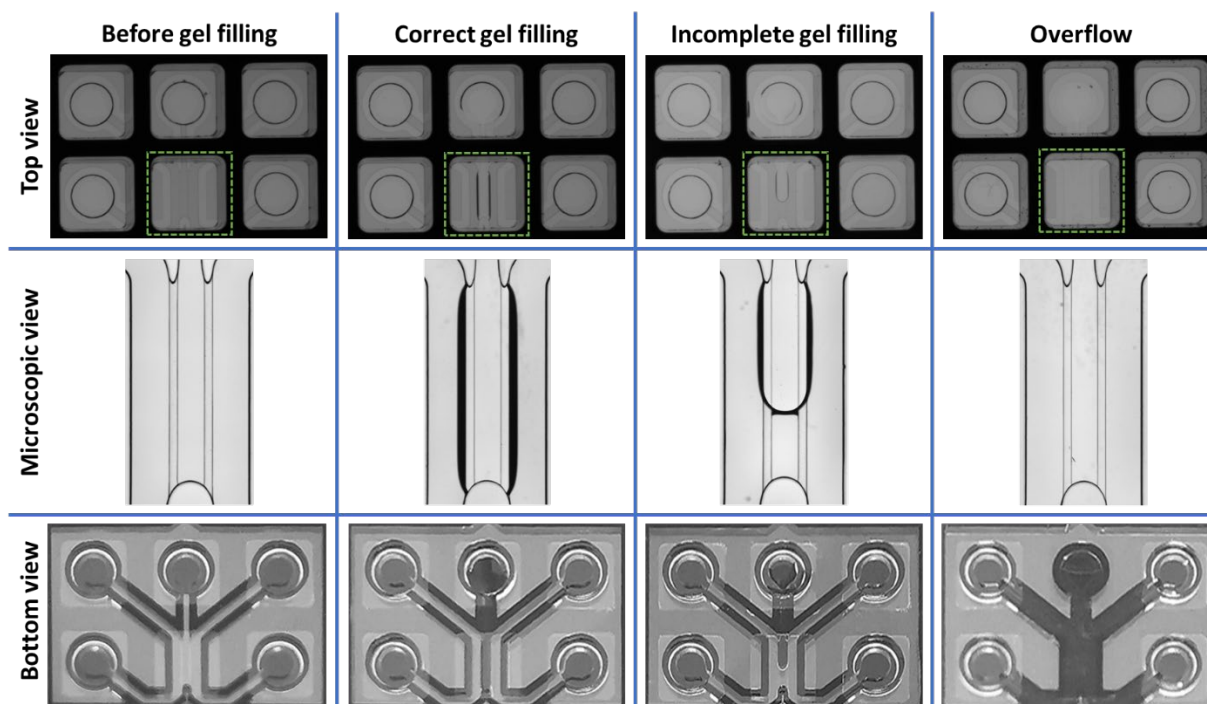

Figure 5: Overview of correct gel filling, incomplete gel filling, and overflow in the OrganoPlate® 3-lane 64
5. For examples of correct gel filling in the OrganoPlate® 3-lane 64, see figure 5.